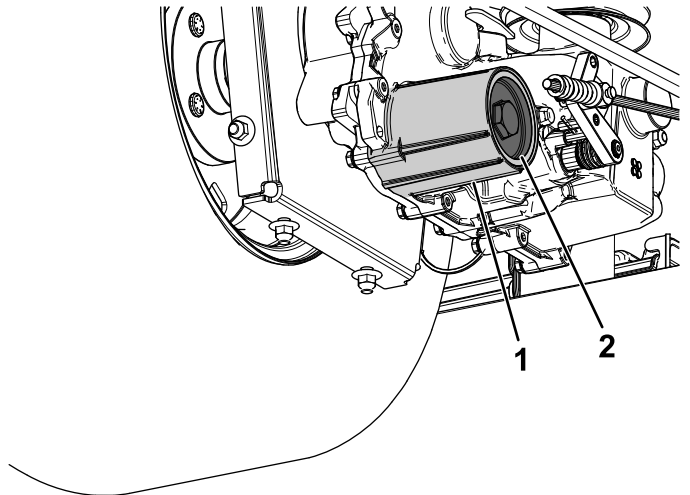

Figure 76
7. Remove the hydraulic-fluid filter cover from the transaxle to drain the fluid (Figure 76).